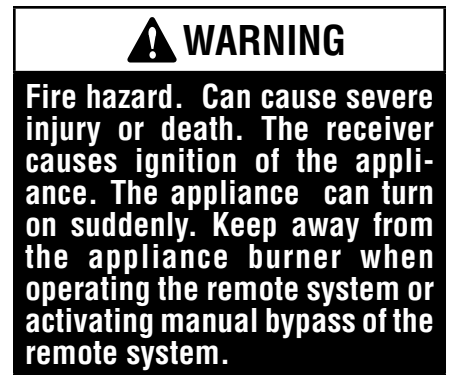

Figure 10-2: Transmitter (Remote Control)
When the ON/OFF key is pressed (**Figure 10-2**), the LED on the transmitter illuminates and the Remote Control is switched on.
If the appliance and the Remote Control are switched on, when the ON/OFF key is pressed (**Figure 10-2**), the Remote control is turned off. The receiver beeps (2) times.
With this function it is possible to deactivate the remote control key (**see Figure 10-2**).